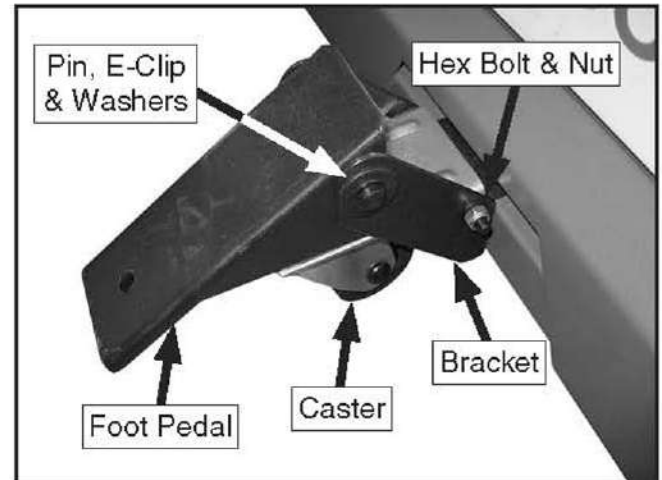

Figure 11. Foot pedal and caster installed.
9. Remove the hex bolt, and hex nut that are pre-installed in the foot pedal bracket (see **Figure 11**).